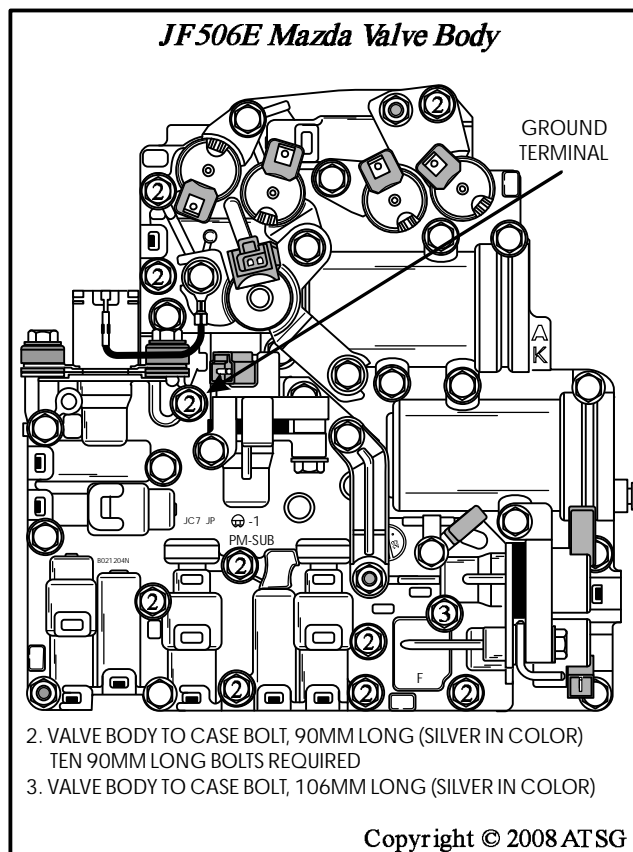

Figure 233
**Note: Notice that one is longer than all of the others. Figure 233 shows you where they are all positioned. Hand tighten only at this time.**
**Note:** *Wire harness ground terminal goes under valve body to case bolt indicated in Figure 233.*